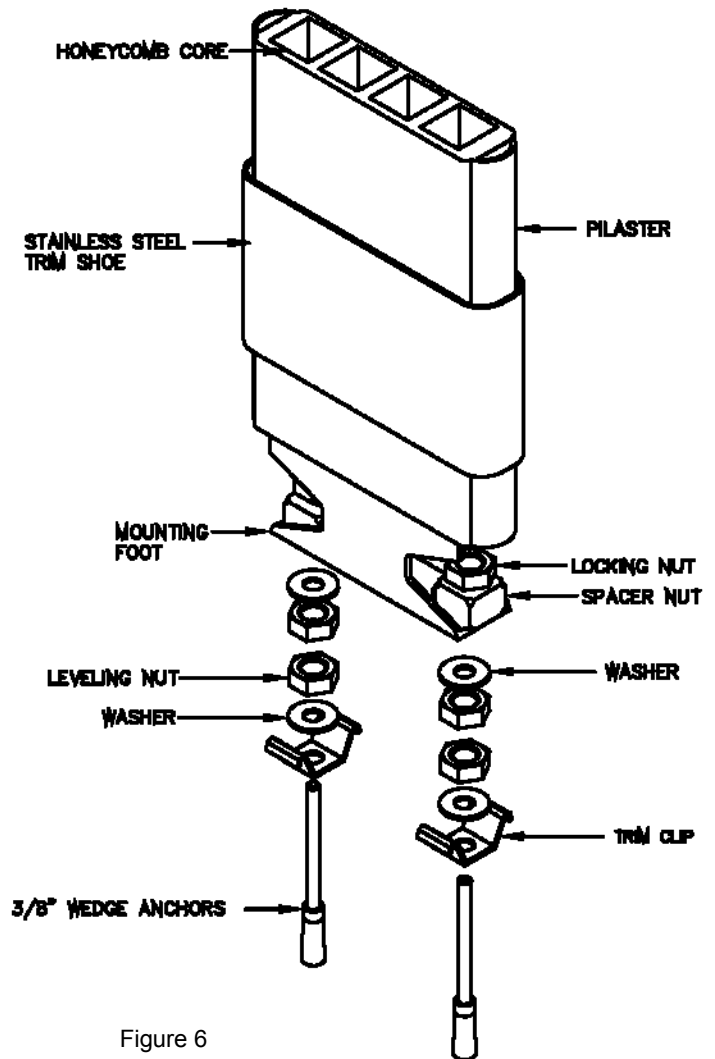

Figure 6
- Insert wedge anchors into floor so that studs project 2" above floor. Place trim clip and flat washer on studs and draw up tight with hex nut. Place second nut and washer on studs, adjusting as required so that they are level across the room. See Figure 6 for details.